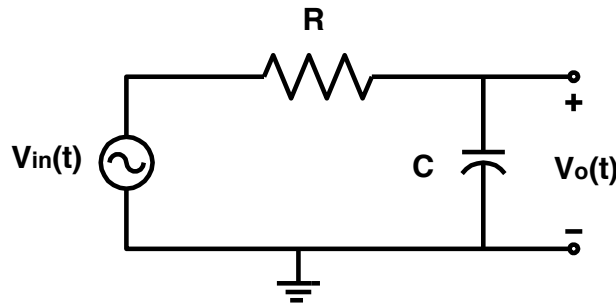

Fig. 2. First order low-pass filter
1. For the circuit shown in Fig. 2, derive the transfer function for  $v_o/v_{in}$  in terms of  $R$  and  $C$ , and find the expressions for the magnitude and phase responses. Express the transfer function in the form
1. Build the circuit shown in Fig. 2 with the values of  $R$  and  $C$  you choose in the pre lab. Apply a 6 Vpp sinusoidal signal from the function generator to the input and use the high Z option on your signal source (ask you TA for assistance).